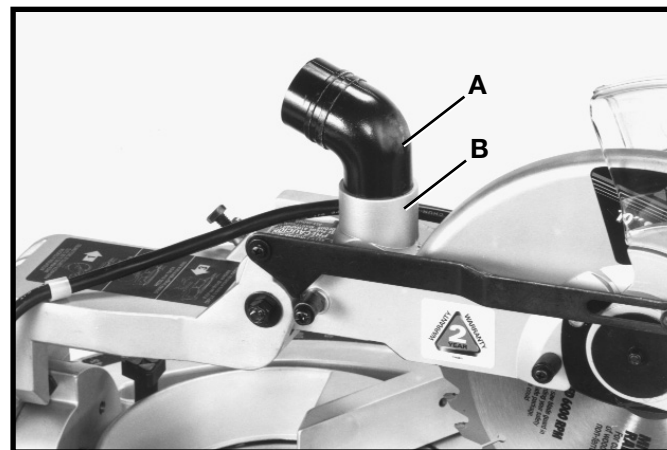

Fig. 20
1. Insert smooth end of dust elbow (A) Fig. 20, into opening (B). The dust elbow (A) can be rotated as desired.